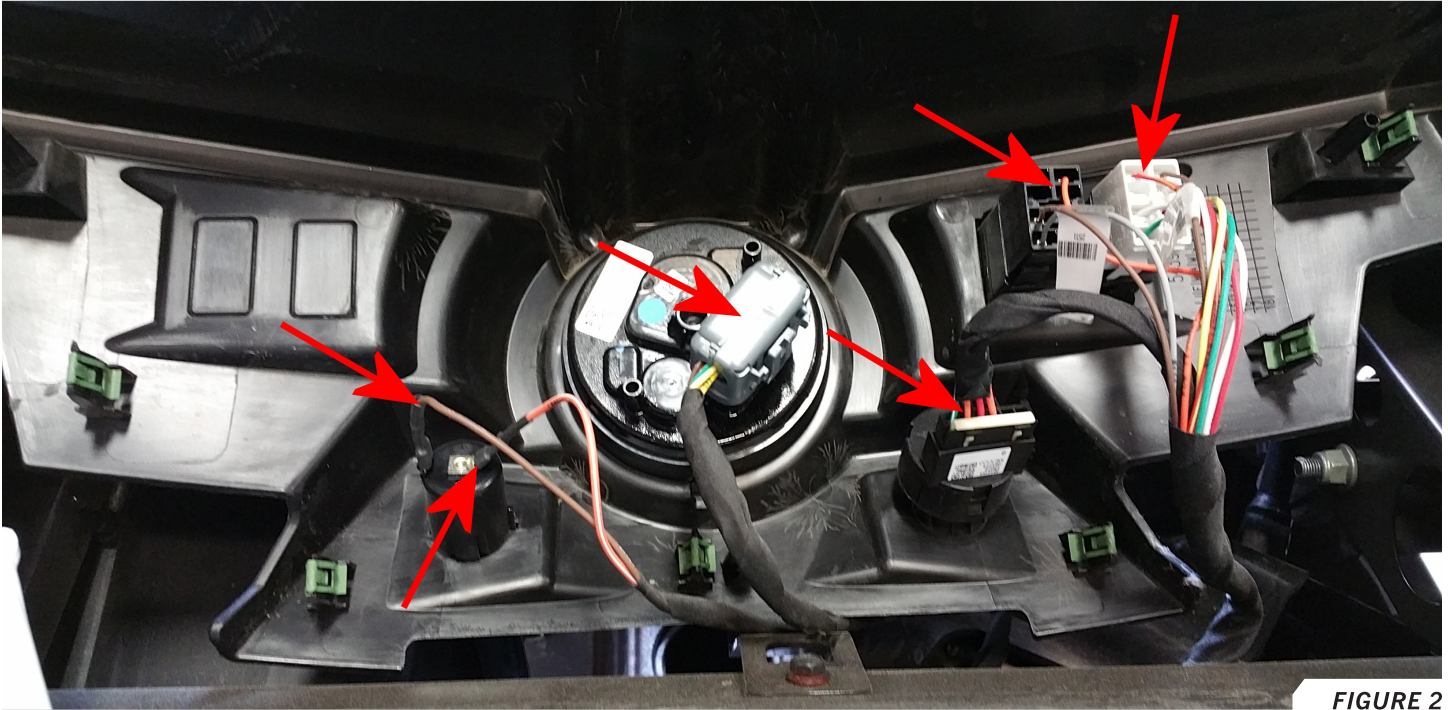

FIGURE 2
4. Remove all electrical connections. *FIGURE 2*